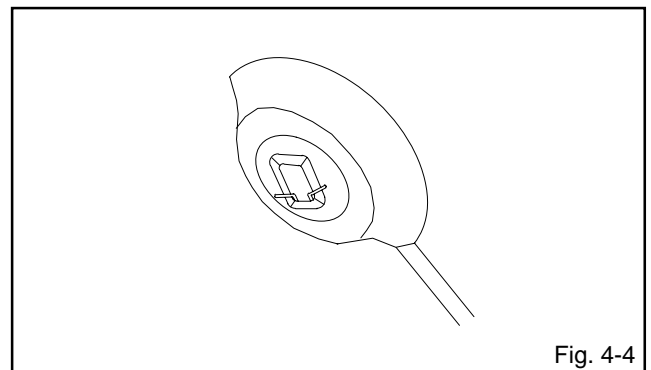

Fig. 4-4
3. Turn over the Rubber Cap. **(Refer to Fig. 4-4.)**